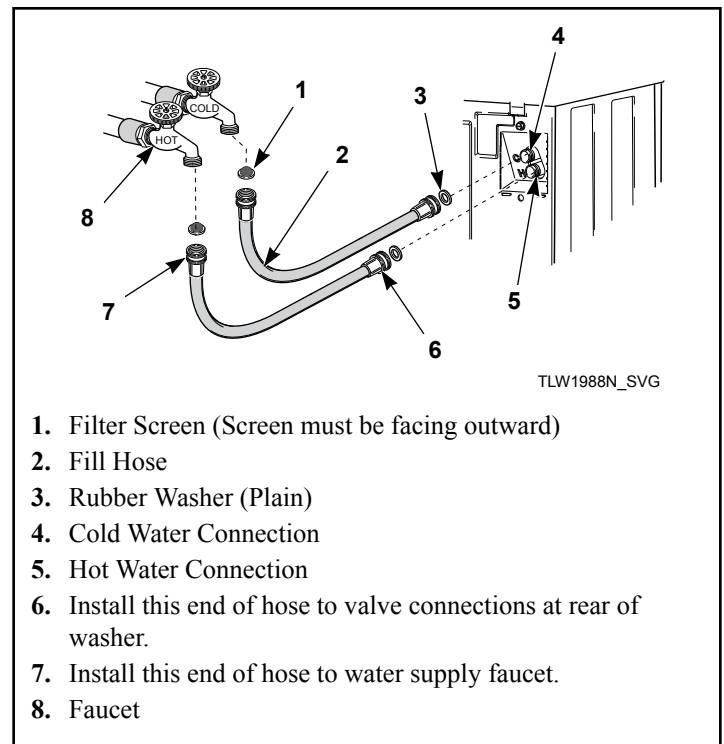

Figure 4
2. Install them into each end of the fill hoses as shown in *Figure 4*. The screen must be facing outward.
5. Screw hose couplings from other end of hoses onto the water mixing valve until they are finger-tight. Make sure the red color-coded hose from the hot water faucet goes to the water mixing valve marked “H” and the blue color-coded hose from the cold faucet goes to the valve marked “C”. Refer to *Figure 4*.